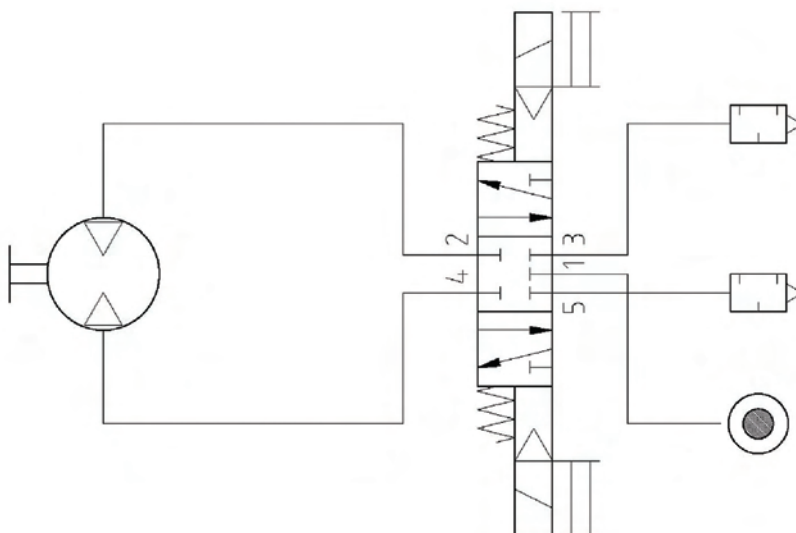

Fig 7
- Fig 7 shows plumbing for power wind in both directions.